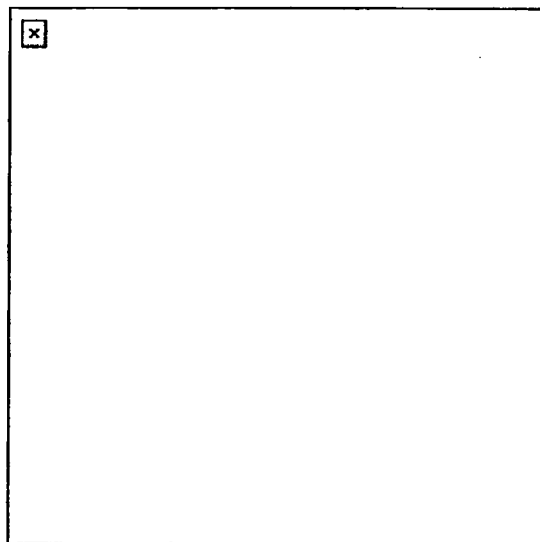

Figure 4. Kneeling position.
- b. Kneeling position. Kneel and grasp the control grips with your thumbs on the trigger (Figure 4).